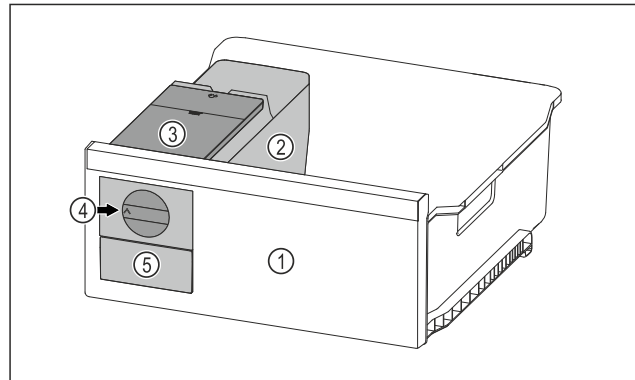

Fig. 70 Example illustration
- Turn the rotary knob Fig. 70 (4) clockwise as far as it will go.
- Ice cubes fall from the ice cube tray into the ice cube drawer Fig. 70 (5).